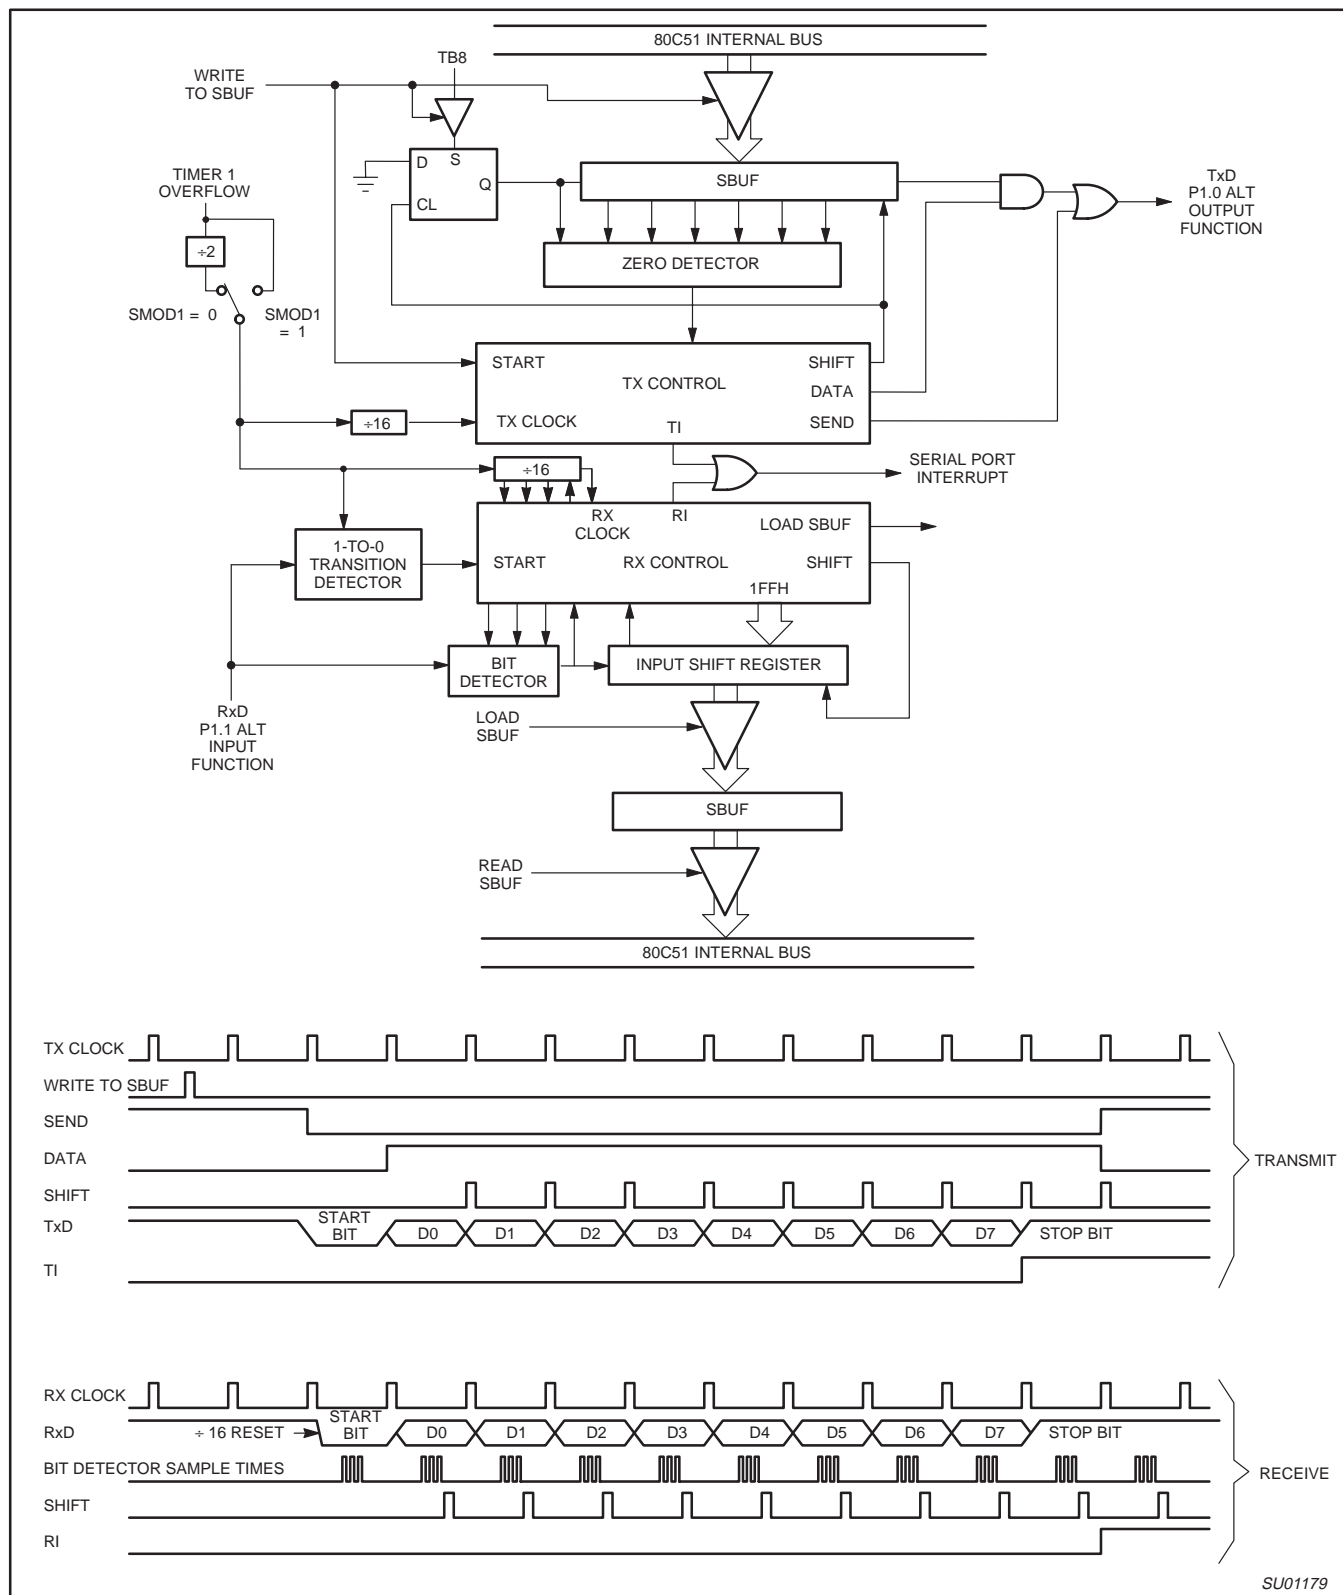

Figure 30. Serial Port Mode 1
Ten bits are transmitted (through TxD), or received (through RxD): a start bit (0), 8 data bits (LSB first), and a stop bit (1). On receive, the stop bit goes into RB8 in SCON. In the 87LPC762 the baud rate is determined by the Timer 1 overflow rate. Figure 30 shows a simplified functional diagram of the serial port in Mode 1, and associated timings for transmit receive.